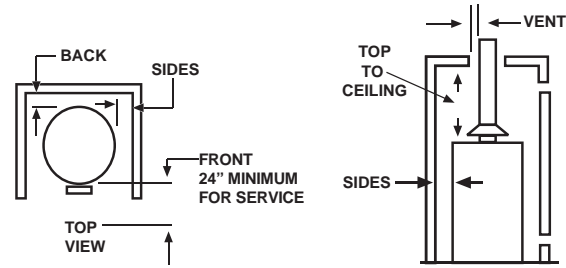

FIGURE 2.
- Figure 2 may be used as a reference guide to locate the specific clearance locations. A minimum of 24 inches of front clearance should be provided for inspection and service.